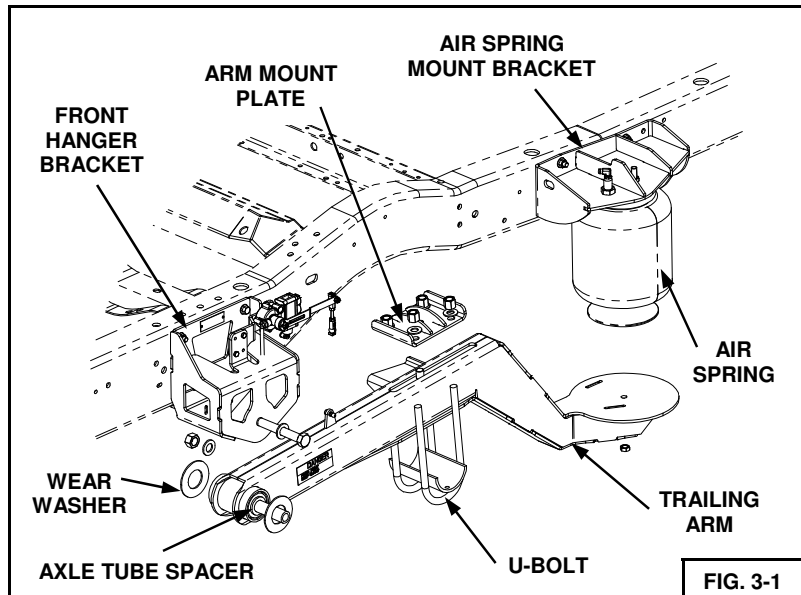
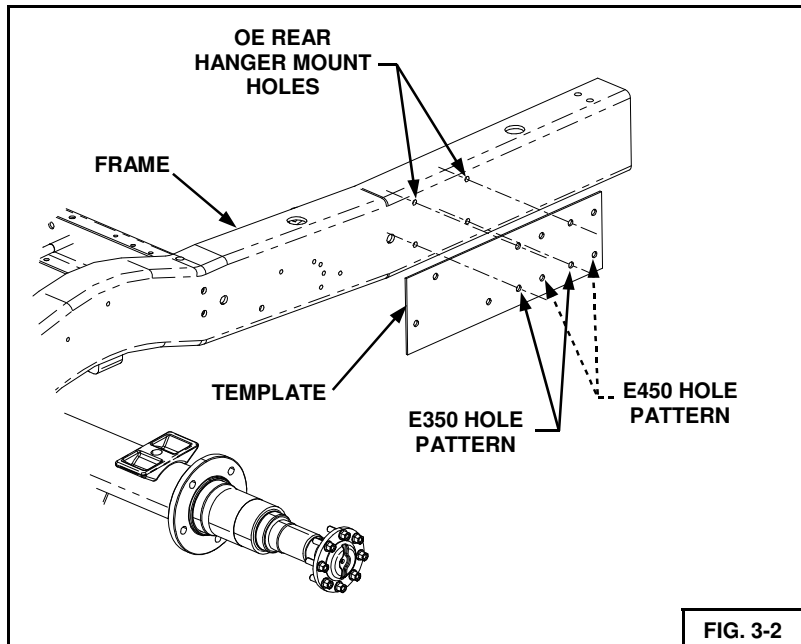

FIG. 3-1
FIG. 3-2
1. Review Figure 3-1 & Figure 11-2 to acquaint yourself with the various parts of the UltraRide suspension.
2. Fasten the Front Hanger to the frame using the (4) 7/16 x 1 1/4 UNC FLANGE BOLTS and (4) 7/16 UNC TOP LOCK FLANGE NUTS. (See Table 11-1 for appropriate Torque).
3. Loosely secure the suspension Arm to the axle using (2) 5/8 UNF, 4.0 X 10.50 U-bolts, (4) 5/8 WASHERS, (4) 5/8 UNF HIGH NUTS, and the Arm Mount Plate. Make sure the locating pin is properly inserted into the mating hole on the axle pad and that the bottom side of the arm rests evenly on the axle pad. **Note:** Install the axle tube spacer between the U-bolts and Axle when installing on an E350.
4. Insert the Bolt Spacer Tube into the arm bushing and loosely fasten the Arm to the Front Hanger using (1) 3/4 X 7 UNF BOLT, (1) 3/4 UNF NUT, (2) 3/4 WASHERS, and (2) plastic wear washers.
5. Using the enclosed bolt hole template for the Upper Air Spring Mount, align the template to the frame using the appropriate rear spring hanger holes. Mark and drill three (3) new frame holes to 0.47" on each side of the frame.
Bolt the air spring bracket assembly to the frame using (5) 7/16 x 1 1/4 UNC CAPTIVE BOLTS and (5) 7/16 UNC TOP LOCK FLANGE NUTS. (See Table 11-1 for appropriate Torque). **Note:** Use the correct holes designated for either the E350 or E450 chassis. See Figure 3-2.
6. Bolt the air spring to the suspension Arm using (1) 1/2 UNC JAM NUT. Make certain the air spring is not twisted or creased after tightening the nut. (See Table 11-1 for appropriate Torque).